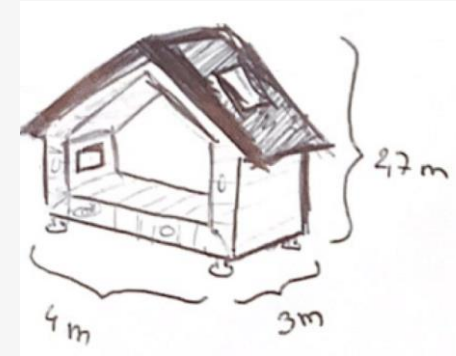

Fig. 1 - outer layer
- outer layer (*fig. 1*) - made of *Siberian Larch* and *Oakum*